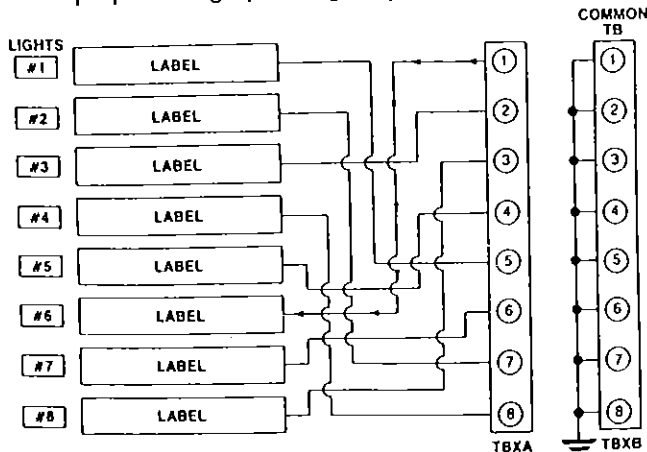

FIG. 9 — WIRING SEQUENCE
4. As the connections are being made, identify each line (both inside the box and on the standpipes outside the box) using the self-adhesive labels supplied. Be careful not to damage the check valve (by overheating the lower portion) while silver-brazing. Wrap the pigtail with a damp cloth or use a commercially available heat sink to minimize over-heating (See Fig. 9).
- a. After pulling remote signal wires to the alarm panel, make connections to the appropriate terminals (TBXA) as identified (See Fig. 9). For example, signal position No. 6 ("Lights") on the module is connected to terminal strip TBXA, position No. 1 and common wire is connected to the corresponding No. 1 on the TBXB terminal strip.